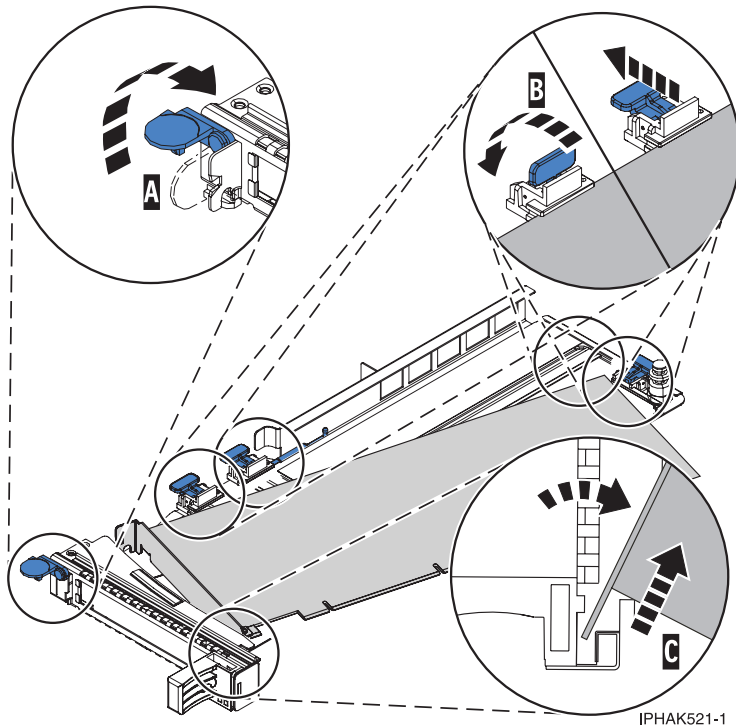

Figure 35. Adapter removed from the PCI adapter cassette
- a. Unlock the adapter retainers by rotating the retainer clip (A) into the horizontal position. See Figure 35 on page 54.